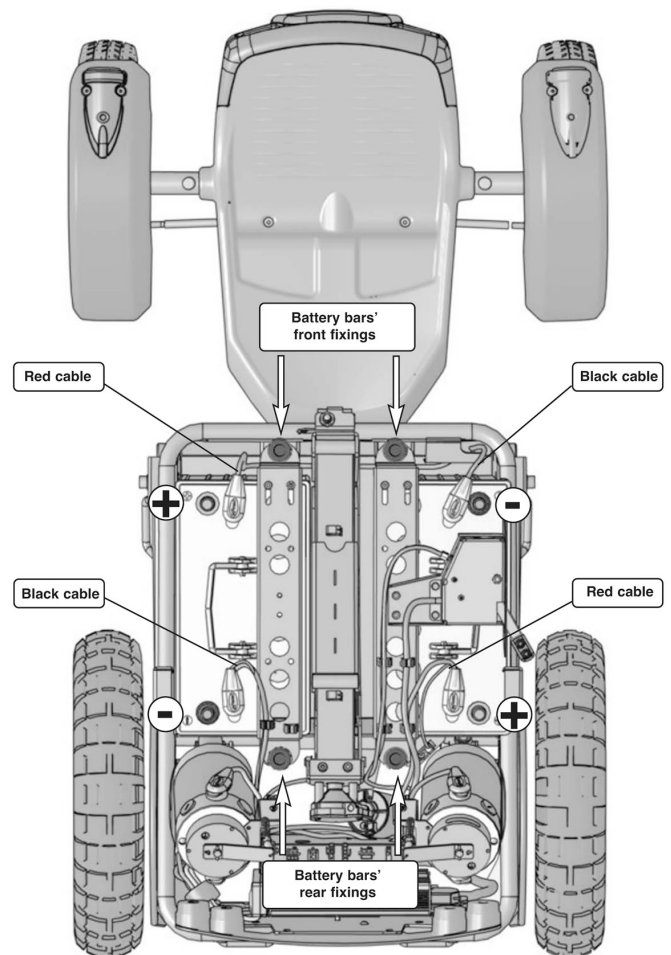

Figure 12. The batteries' fixing bars and connections.
4. Disconnect the battery connections. See fig. 12.
5. Loosen the four knobs that hold the batteries' fixing bars. See fig. 12.
2. Fix the batteries in place with the two battery bars, which are held in place with the four knobs. See fig. 12
3. Connect the battery connections. See fig. 12